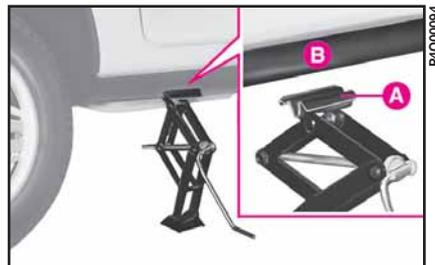

fig. 5
4) Ensure that grooves **A**-**fig. 5** in the jack fits properly into the side-member **B**.